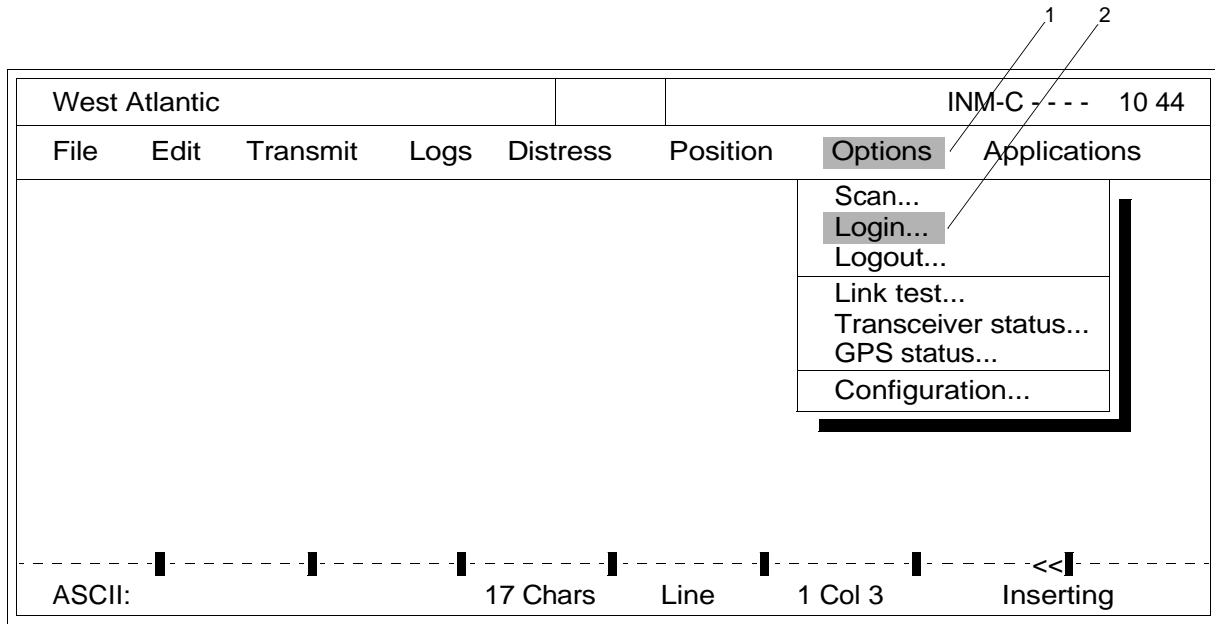

Figure 1. Options Drop-Down Menu
2. Highlight Options (figure 1, item 1) on the menu bar.
4. Highlight Login (figure 1, item 2) from the drop-down menu.